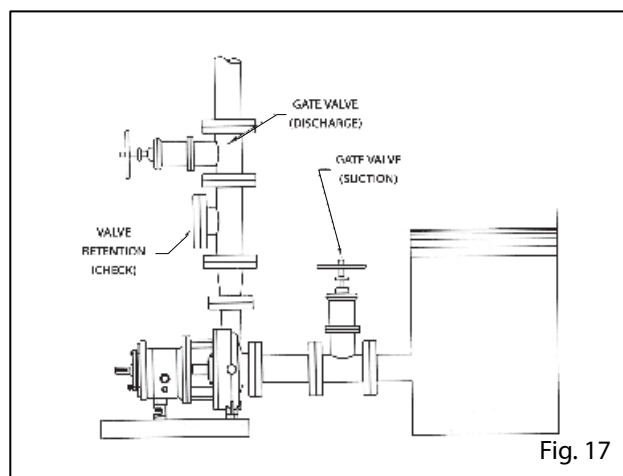

Fig. 17
7.- When the suction is positive, i.e. when the pump is with suction flooded, (see Figure 17) a gate valve should be installed in the suction line at least two diameters of the suction flange, no portion of the piping should extend below the suction flange.
- 1.- Slowly open the gate valve located in the suction pipe (see Figure 17).